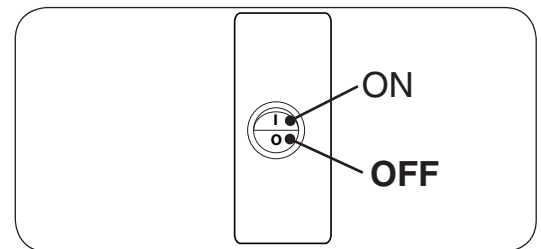

Fig. 35-1 Switch box, ON/OFF
1. Locate the ON/OFF switch at the front of the switch box. Press the switch to the **OFF (O)** position. See Fig. 35-1.